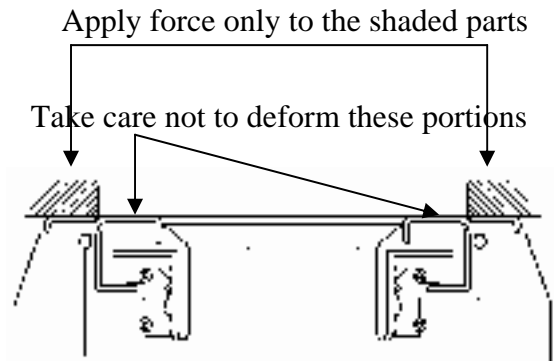

Fig. 6-29
- 3) When installing unitized seals on the wheel shaft cover and the rotating part between the final cases (A and B), apply force only to the outer circumference of the seal as shown in Fig. 6-29 to avoid deformation.